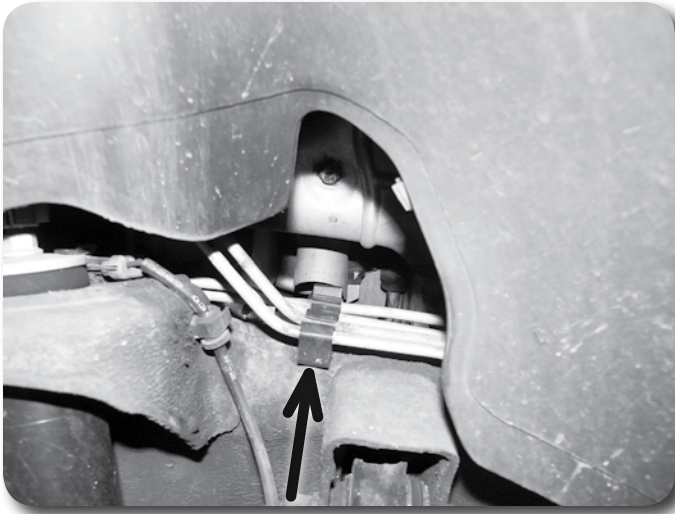

Figure 11
15. Locate the brake lines on the driver's side frame rail at the front driver's side wheel well. Remove the brake lines from the retaining clip **Figure 11**. Check for any other lines, hoses or wires in this area that may not have enough slack to compensate for 1.5" of lift. Mark these lines, hoses or wires and disconnect.